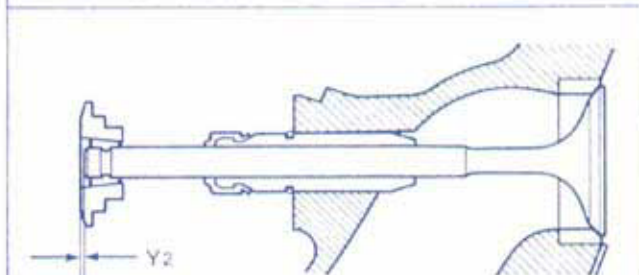

Fig.2
- Set the valve spring retainer and two cotter halves to the valve stem end, and measure the length Y₂, as shown in the Fig.2.